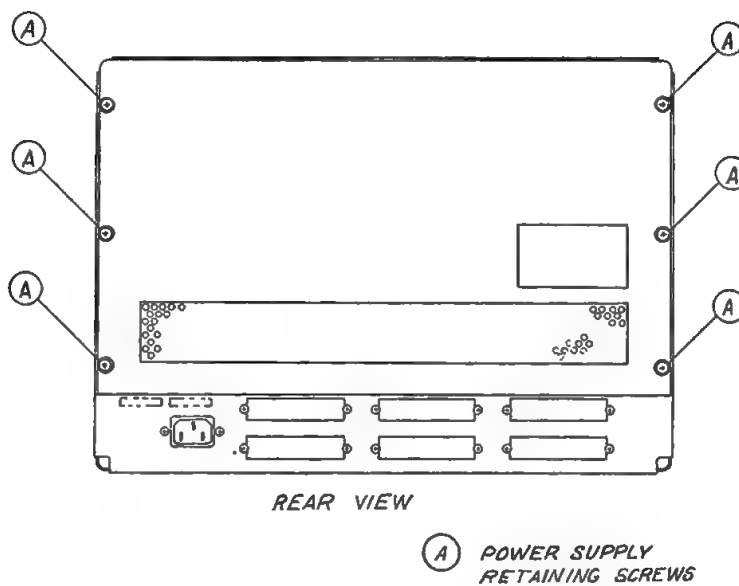

Figure 2-2. iSBC 680/681 Rear View
2. Unscrew the six retaining screws on the back of the iSBC 680/681 chassis, see Figure 2-2.